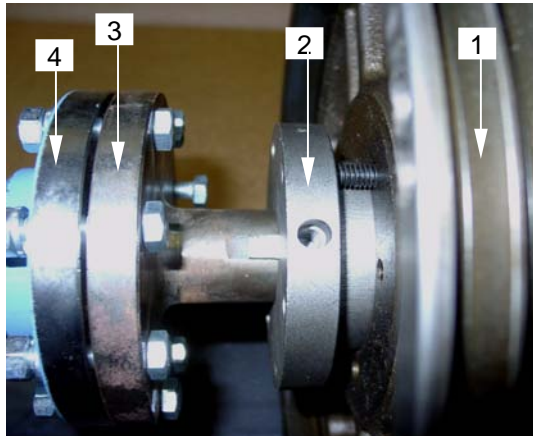

Figure 8. Vacuum Pump Pulley Assembly
- 20. Remove pulley (**figure 8, item 1**), pulley adapter (**figure 8, item 2**), flanged pump shaft extension (**figure 8, item 3**) and tapered shaft coupler (**figure 8, item 4**) from the vacuum pump and install onto new pump as described in steps 2., through 18., under REPLACE in WP 0030 00.